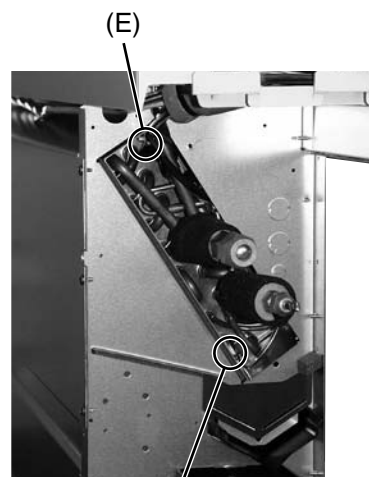

Fig.4
(2) Remove the thermistor (gas)(E) and the thermistor (liquid)(F). (Fig. 4)